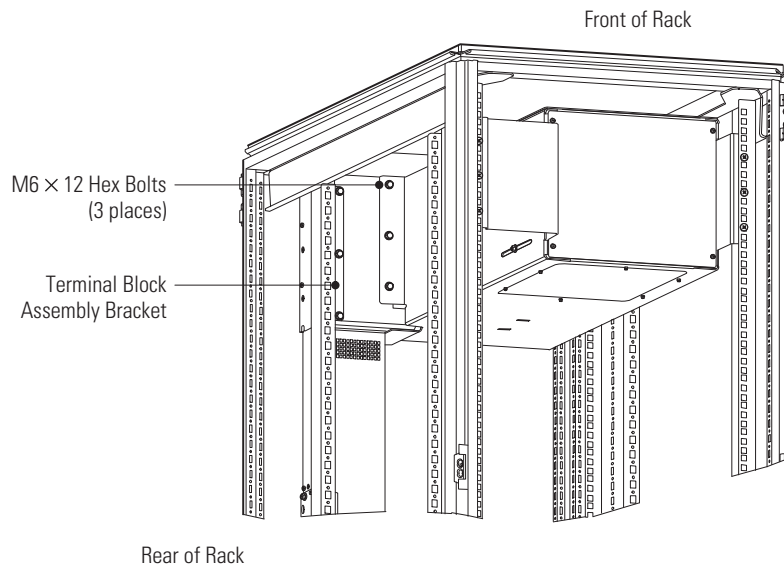

Figure 15. Terminal Block Assembly Installation
11. Note the orientation of the terminal block assembly bracket installed on the bar for later re-installation (see Figure 15). Remove and retain the terminal block assembly bracket and hardware.
13. Secure the bar to the wireway with three M6 x 12 hex bolts. Install the bolts from the front of the rack. See Figure 15. Torque the bolts to 5.1 ± 0.8 Nm (45 ± 7 lb in).
14. Reinstall the terminal block assembly bracket removed in Step 10. Install the bolts from the front of the rack. See Figure 15. Torque the bolts to 5.1 ± 0.8 Nm (45 ± 7 lb in).